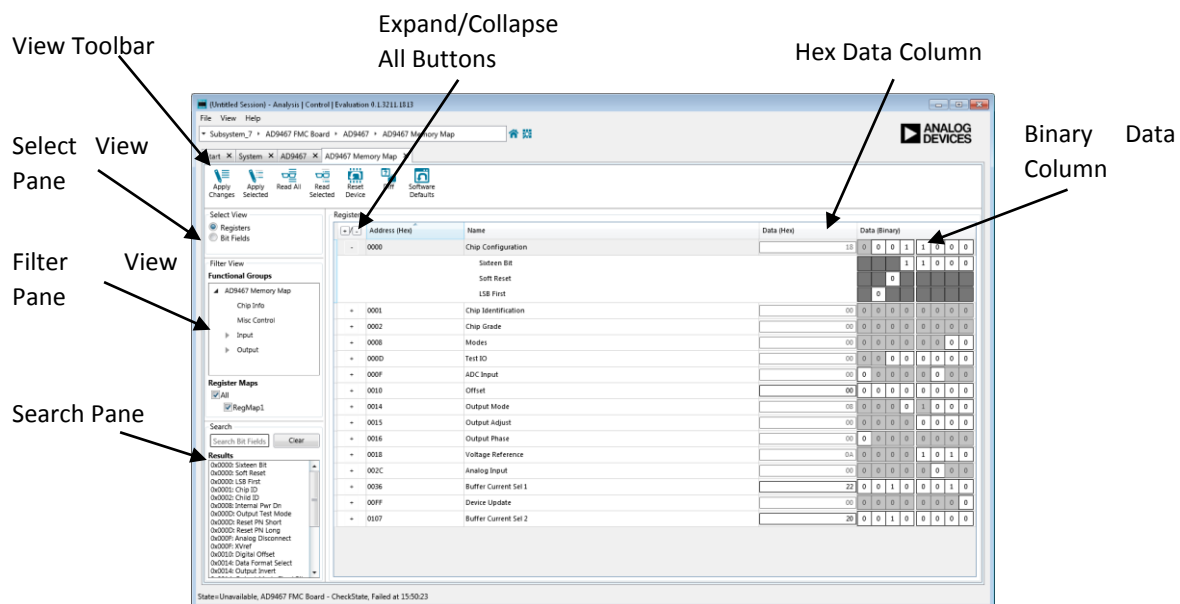
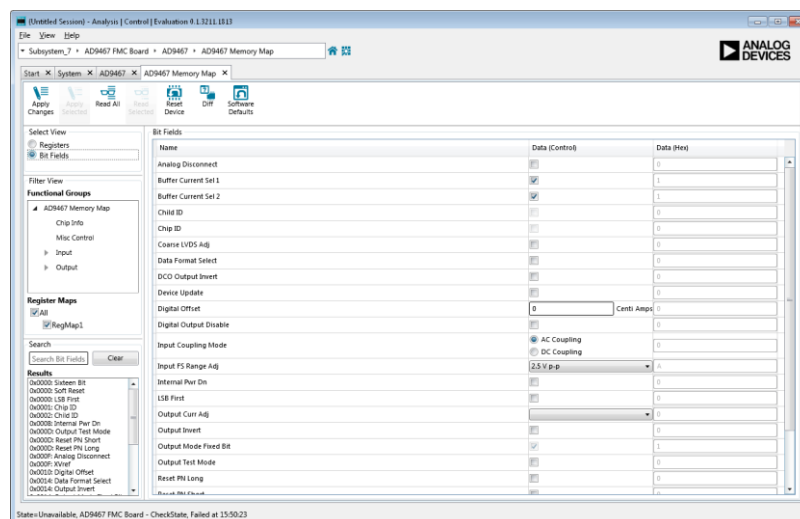

Figure 3.11 Memory Map View – Registers Visible
Figure 3.12 Memory Map View - Bit Fields Visible
- **Registers View** – Displays all registers in the component, Figure 3.11. These registers can be expanded to show the bit fields within.
- **Bit Fields View** – Displays all bit fields in the component, Figure 3.12.
The Register view, Figure 3.11, allows you to configure registers at a bit level. The value can be changed either by changing the hexadecimal value in the hex data column or by clicking on individual bits in the binary data column. Registers can be expanded to show the bit fields that make them up and these bit fields can also be controlled by toggling the bits.
The Bit Fields view, Figure 3.12, allows bit field values to be modified by changing a control’s value. Changing the value of a control will modify the bit field value to that which the control selection represents. The hex data column displays the hexadecimal value of the bit field’s control state.
You can switch between viewing registers, Figure 3.11, and bit fields, Figure 3.12, by changing the selection in the select view pane on the left-hand side of the view.